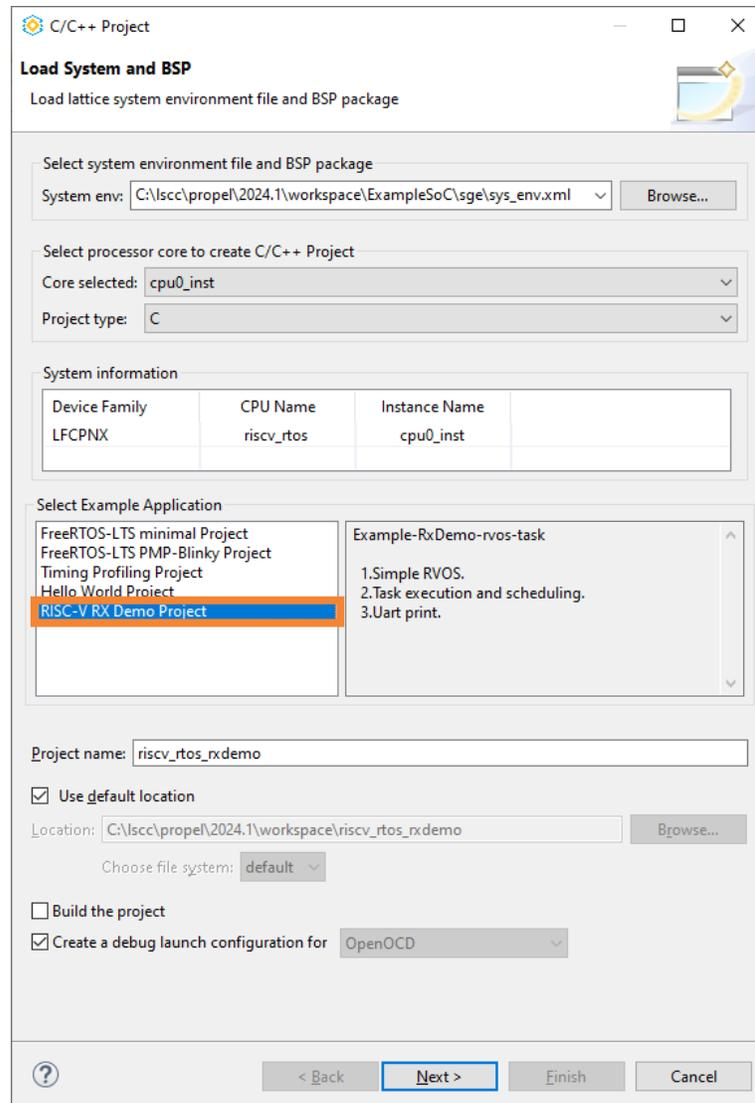

Figure 6.3. Create RX Demo C Project
1. The RX Demo C project can be created through the **Load System and BSP** page (Figure 6.3).